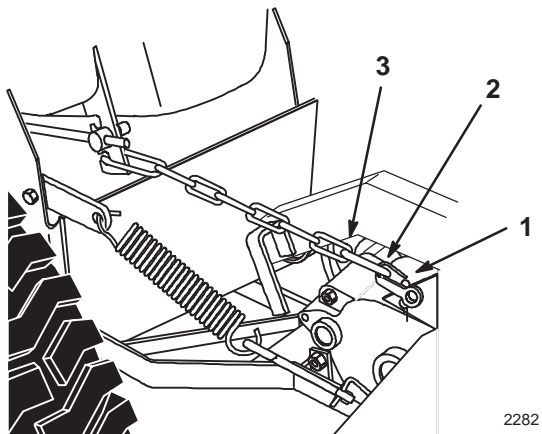

Figure 26
Changing the lift chain link at the clevis, affects maximum tilling depth and transport lift height. These links can be changed at the clevis (Fig. 26).
1. For maximum tilling depth, but reduced transport lift height locate last link of lift chain in the clevis (Fig. 26).
2. For greater lift height, locate the second last link of lift chain in the clevis (Fig. 26). This position will have reduced tilling depth.